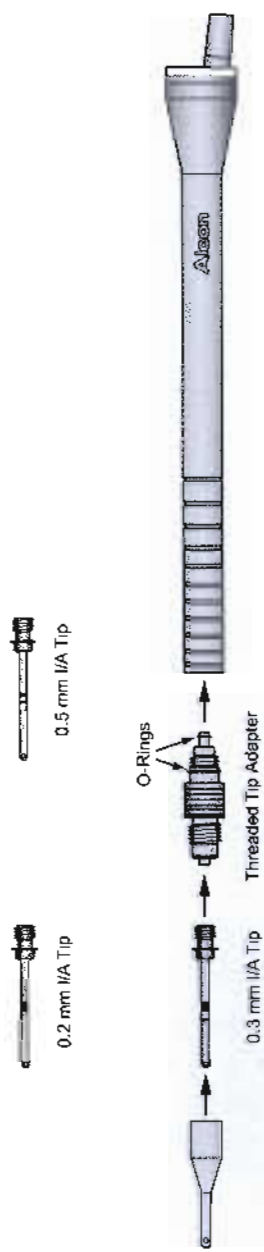

Figure 1-22 *Ultraflow*TM\* IT handpiece with infusion sleeve, reusable I/A tip, and threaded tip adapter
The *Ultraflow*TM\* handpiece is used in I/A mode to maintain chamber pressure with irrigation while removing cortical material via aspiration. (See Figure 1-22 to note the band markings on the tips that identify size of tip aperture.) Some configurations of the *Ultraflow*TM\* IT and SP handpieces also use infusion sleeves. The following *Ultraflow*TM\* I/A handpieces and tips are available:
- *Ultraflow*TM\* IT Handpiece and Threaded Tip Adapter - Reusable I/A tips with *TurboSonic*® silicone infusion sleeves can be used with the *Ultraflow*TM\* IT handpiece with threaded tip adapter (see Figure 1-22).